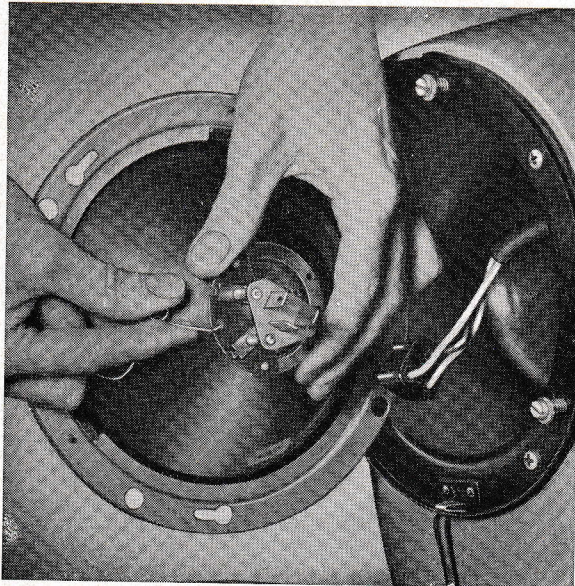

Fig. 69. Removing the bulb holder spring.
2. Lift off the spring (springs) as shown in Fig. 69. The spring (springs) secure the bulb holder in the case of symmetrical headlights and the bulb in the case of asymmetrical headlights.